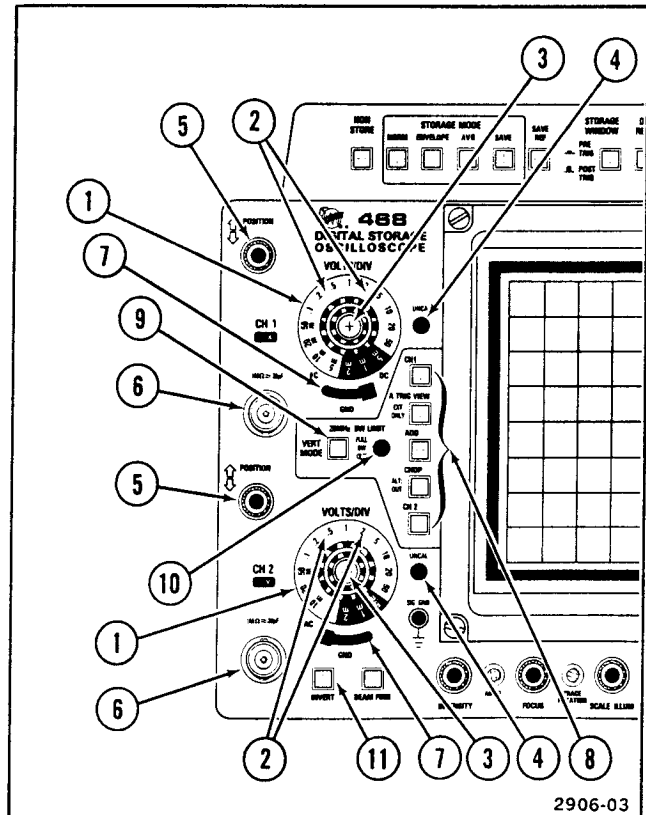

Figure 2-3. Vertical controls, connectors, and indicators.
Refer to Figure 2-3 for location of items 1 through 11.